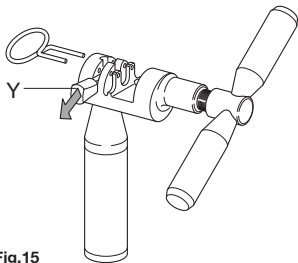

Fig.15
- Prepare the tool **UT-CN400** by positioning the tongue in closure mode (Y - **Fig. 15**).